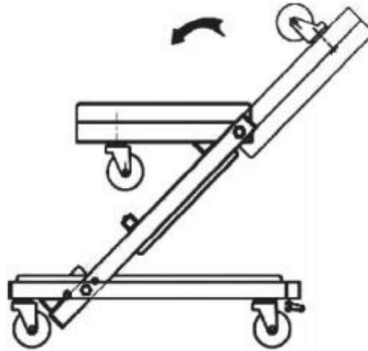

Figure 4 - Adjusting Creeper to seat configuration
1. Unlock the spring loaded Lock Pin by pulling out until disengaged, at the same time rotate the Head Frame and Middle Frame upward and back towards the Rear Frame section until the Lock Pin can engage the Creeper Seat Locking Sleeve (Fig.4). Ensure Lock Pin is fully engaged.